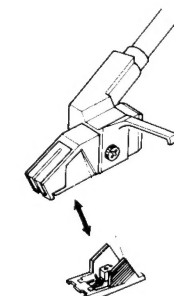

Fig. 20
1. Pull diagonally downwards the stylus assembly as shown by the arrow in Fig. 20.